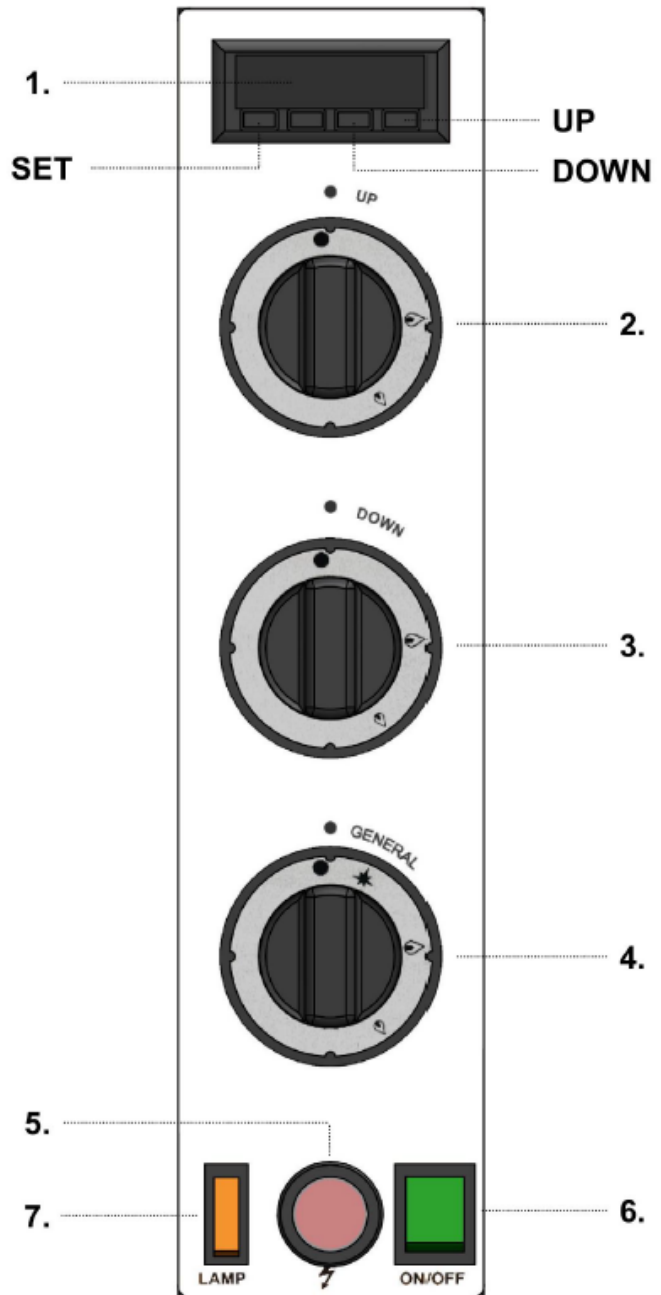

FIG.14
The control panel (FIG.14) is fixed at the right side on the front part of the oven, from here the users can manually operate or cook in the oven.
- 3) Press on the general electrical switch (FIG.14-Rif.6), the green lamp will light;
- 4) Set the thermostat/thermometer to the working temperature pressing the “set” and “+” or “-” keys (FIG.14-Ref.1). In case the desired temperature is the same or below than the atmospheric temperature it will be impossible to switch on the burners because the thermostat is connected to the gas feeding electro valve which stops the gas flow when the temperature reaches the desired value.
- 5) Rotate the knob of the general tap of the gas supply (FIG.14-Ref.4) to the position,  press and hold the knob and at the same time press repeatedly the piezoelectric ignition pilot (FIG.14-Rif.5); release the knob should the pilot burner lights; The pilot flame must remain lighted; if it does not happen, repeat the operation.
- 6) Rotate the general tap knob (FIG.14-Ref.4) to the position  (maximum power);
- 7) Turn open the respective taps of the upper burner (FIG.14-Ref.2) and lower (FIG.14-Ref.3) and rotate them in anticlockwise to the position  (maximum power).
Once the oven has reached the desired temperature (see point 5 of the present paragraph), visible on the thermostat/thermometer (FIG.14-Ref.1) it is possible to put the pizza in the oven for cooking.
- 2) To illuminate the internal of the oven press “on” the oven light (FIG.14-Ref.7);
- 1) Turn off the oven ,rotating the knobs in position ● “Off” (FIG.14-Ref.2/3/4);
- 2) Switch off the internal illumination of the oven using the light switch (FIG.14-Ref.7);
- 3) Turn off the general switch (FIG.14-Ref.6) putting the green light off ;